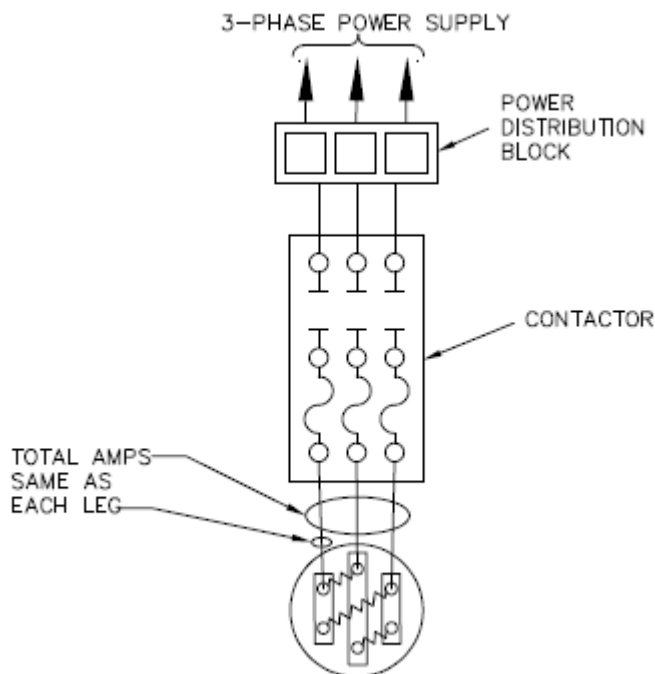

Figure 4-5: Typical Three Phase Wiring
6. Check for proper amperage with ammeter on power circuit. Amperage should not vary more than 5%, when under full load, from amperage shown on data plate. *See Table 2 on Figure 4-5.* If amperage exceeds these limits, immediately turn off main manual disconnect and refer to Section 8.1.